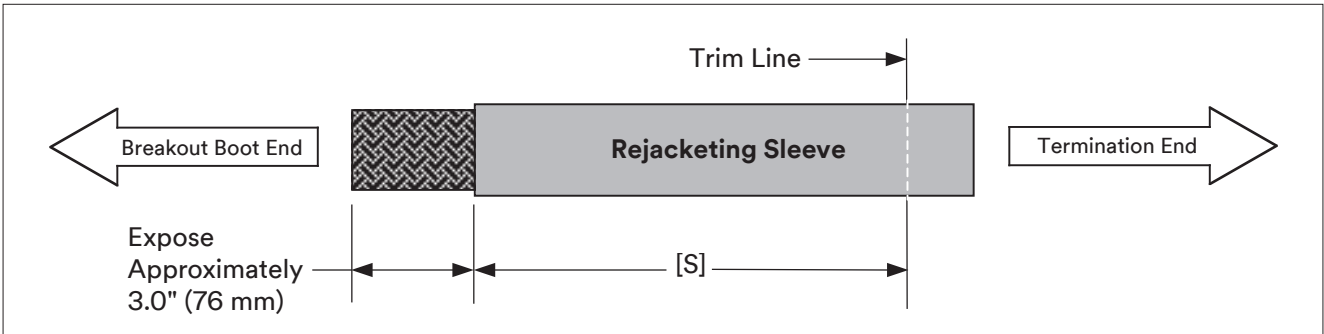

Figure 15
5.4 Using scissors, trim rejacketing sleeve assembly to length required (Figure 15). Cut tubing and inner braid together.